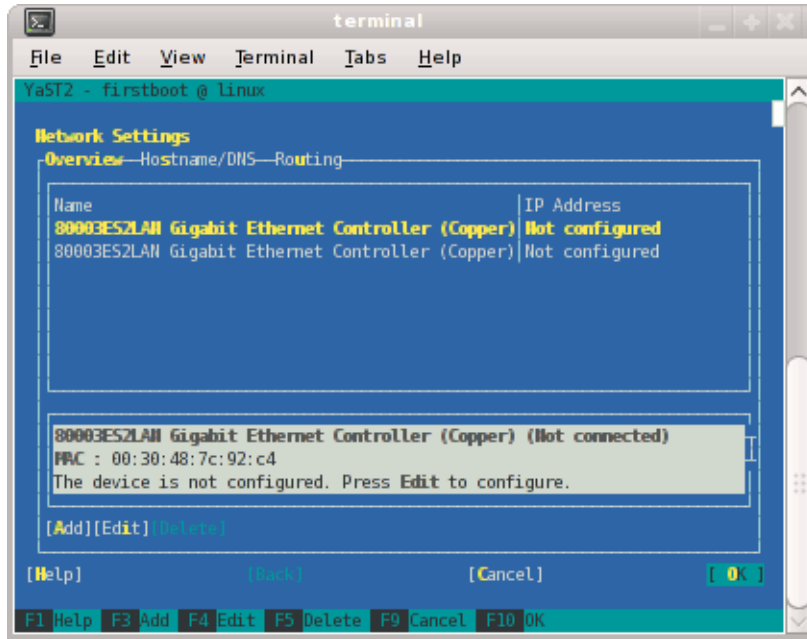

Figure 2-12 Network Settings Screen
5. From the **Network Settings** screen, as shown in Figure 2-12 on page 49, configure the first card under **Name** to establish the public network (sometimes called the house network) connection to your SGI Altix ICE 8200 system. To do this, highlight the first card and select **Edit**.
Note: In SLES11, this screen is also where we will come back to in order to set up things like the default route and DNS. You can see all of those menu choices just to the right of **Overview** in Figure 2-12 on page 49.